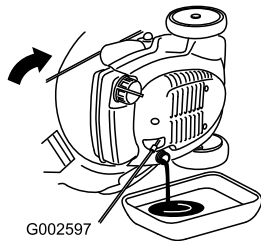

Figure 30
3. Tip the mower onto the **right** side to drain the used oil out through the oil fill tube (Figure 30).